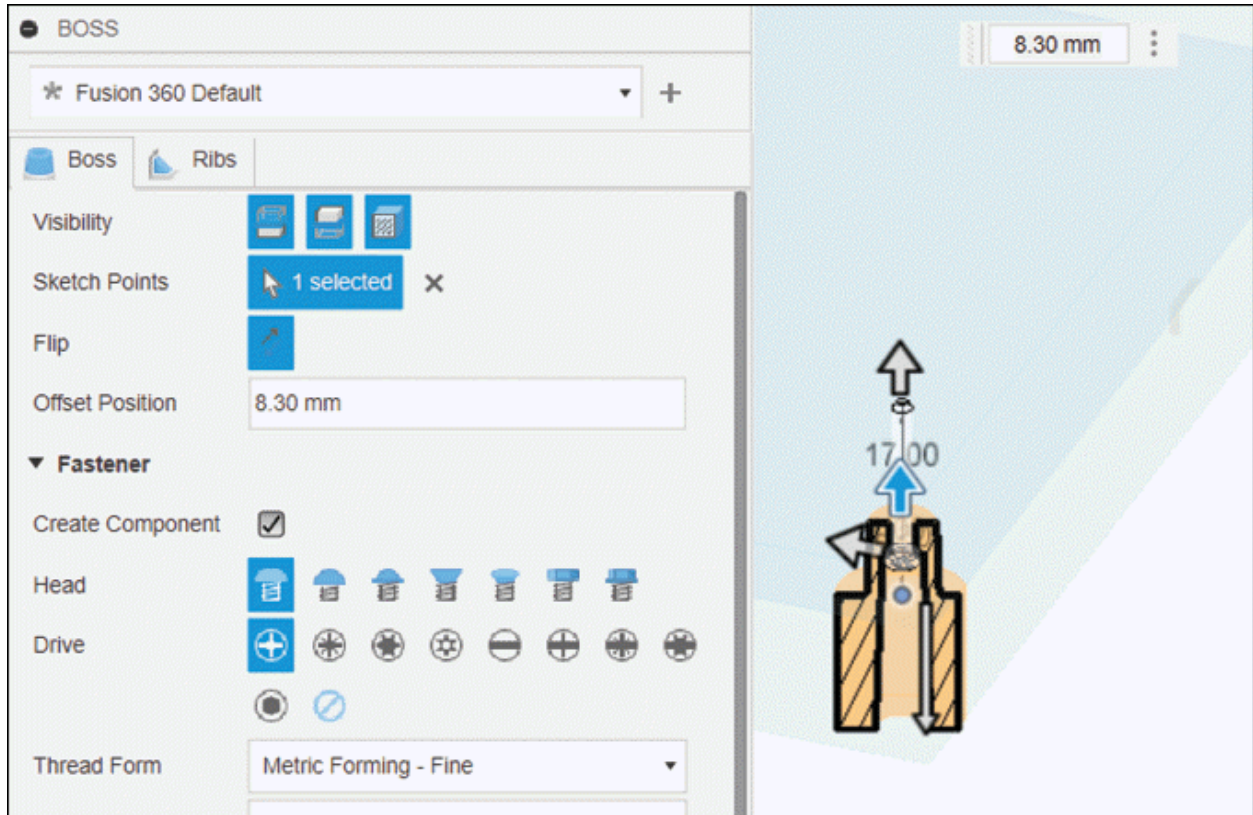

Figure-156. Preview of boss feature
- Click on the **Assign Plastic Rule** button to assign the plastic rule or click on the **Continue** button from the pop-up window to create boss feature without assigning the plastic rule. The preview of boss feature will be displayed; refer to Figure-156. Note that you may need to drag the offset position handle for generating preview of feature.